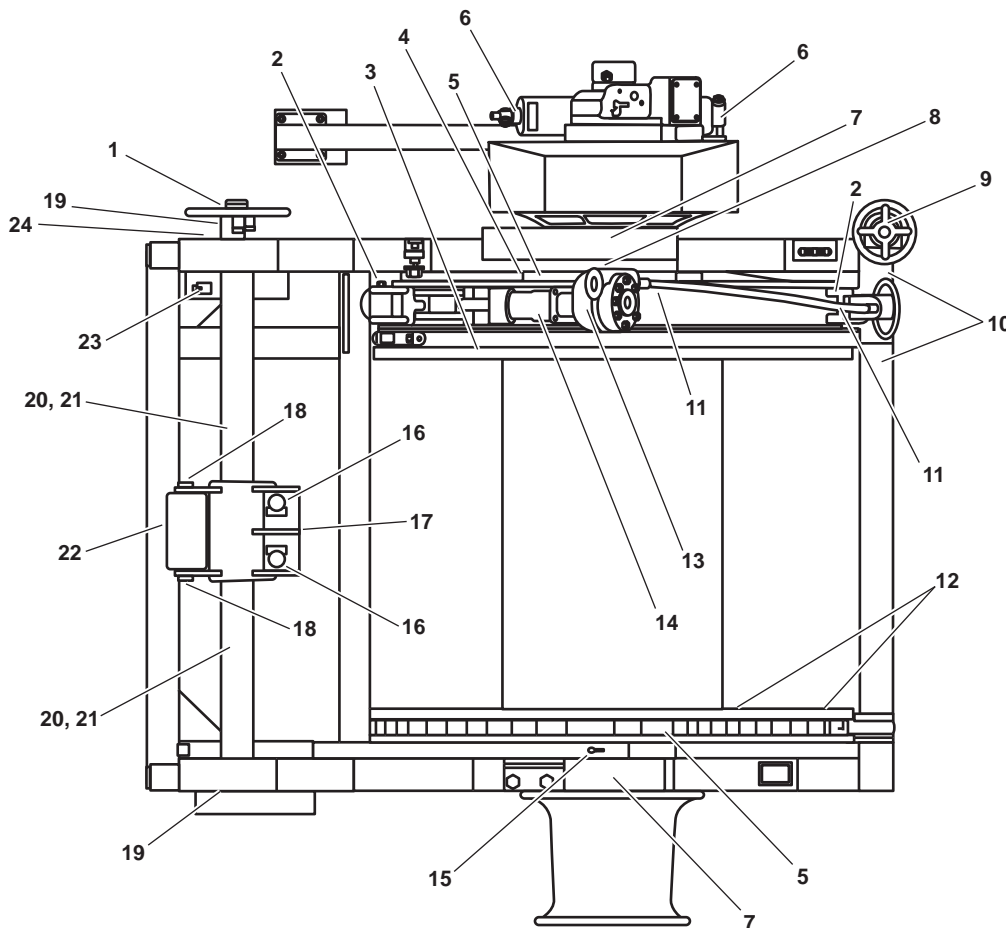

Figure 1. Towing Machine Lubrication Points (Starboard Side Showing, Port Machine Opposite Hand)
The number of lubrication points listed in table 1 are for both towing machines. The frequency of application is based on fairly constant operation. For long periods of inactivity, the towing machine should be rotated for at least one revolution of the drum by hand or under power so that the gear and bearing surfaces can be recoated with lubricant. Figure 1 identifies the points for lubrication.
1. Using a lubricating gun, lubricate the towing machine as indicated in table 1 and figure 1.